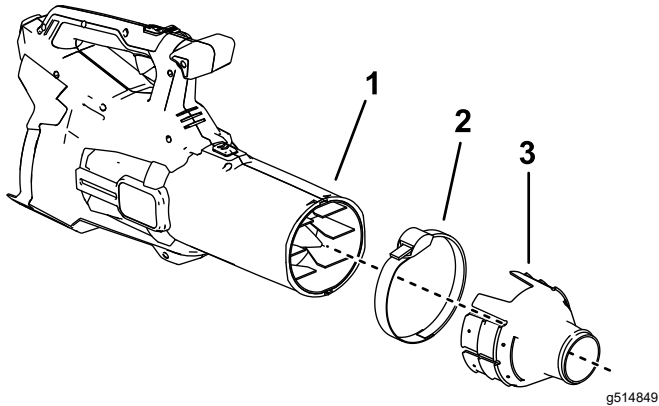

Figure 2
2. Remove the blower tube so that the collar can connect directly to the blower outlet (Figure 2).